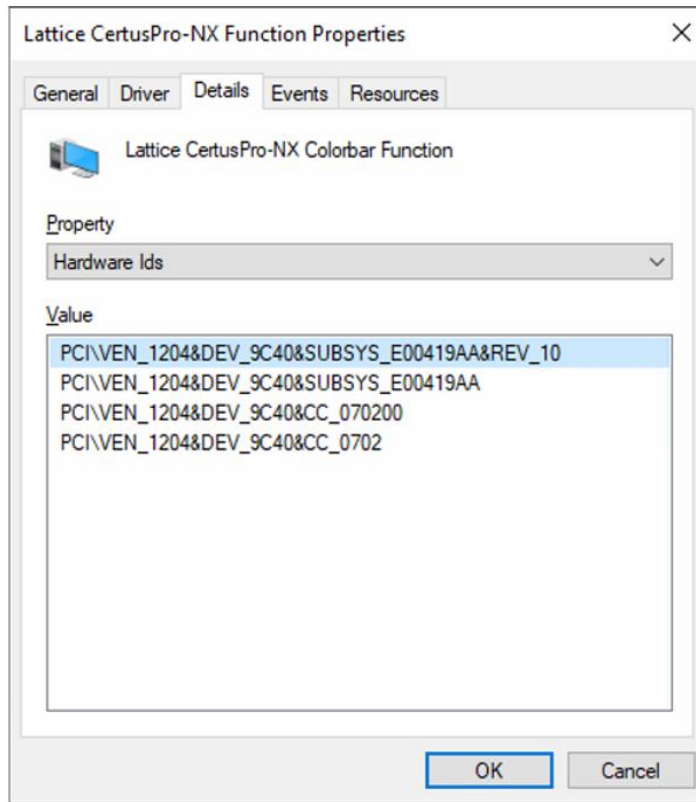

Figure 3.35. Hardware IDs of CertusPro-NX Colorbar Demo Device
- c. For CertusPro-NX devices, the Hardware IDs of the Base System Device for the Colorbar Demo is `PCI\VEN_1204&DEV_9C40&SUBSYS_E00419AA` as shown in Figure 3.35.